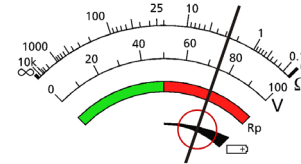

Figure 12: Analogue display indicating remaining battery life
- The battery life will be indicated in the analogue display on the scale marked with the , as shown in Figure 12.